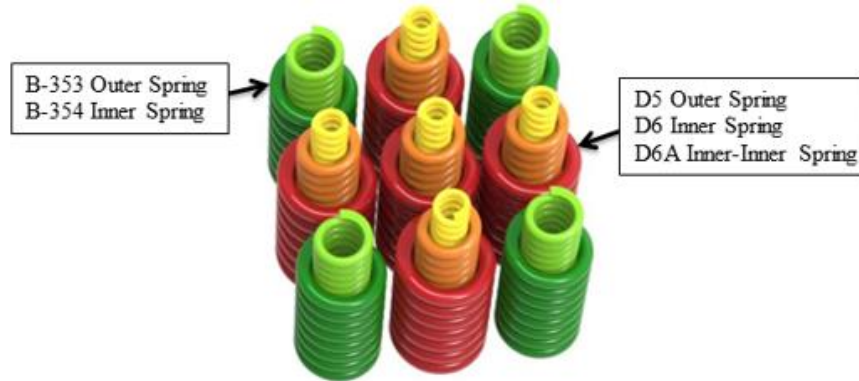

Figure 9: Q4 Spring Group
5. Prepare one spring group for each end of the bolster (Figure 9).
1. The spring group of the Q4-110 ton truck has a 3 by 3 pattern. All springs must be present and properly seated. There should be an outer and inner spring under each wedge, and an outer, an inner, and an inner-inner spring in all other locations (Figure 9)